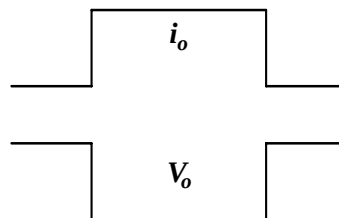
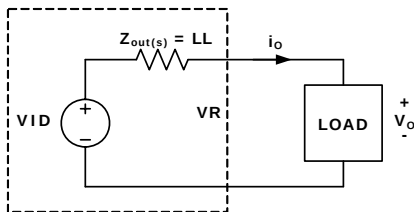

FIGURE 14. DESIRED LOAD TRANSIENT RESPONSE WAVEFORMS
FIGURE 20. VOLTAGE REGULATOR EQUIVALENT
Assuming the compensator design is correct, Figure 14 shows the expected load transient response waveforms if  $C_n$  is correctly selected. When the load current  $I_{core}$  has a square change, the output voltage  $V_{core}$  also has a square response.
Figure 14 shows the desired load transient response waveforms. Figure 20 shows the equivalent circuit of a voltage regulator (VR) with the droop function. A VR is equivalent to a voltage source ( $=VID$ ) and output impedance  $Z_{out}(s)$ . If  $Z_{out}(s)$  is equal to the load line slope  $LL$ , i.e. constant output impedance, in the entire frequency range,  $V_o$  will have square response when  $I_o$  has a square change.